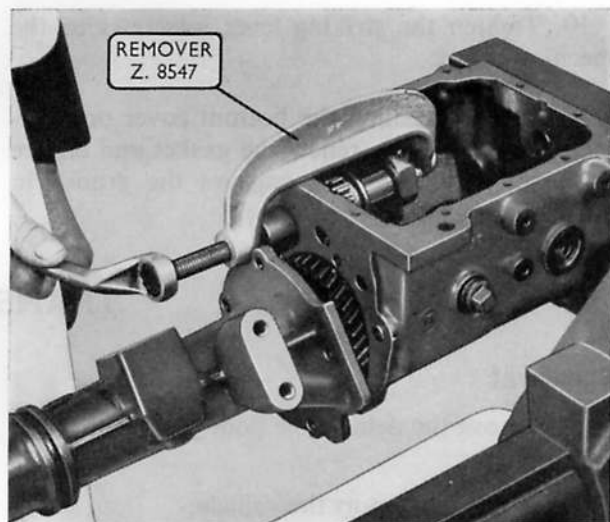

**Fig. G.11. Driving out the first and second speed striking fork rod on a four-speed transmission**
10. Using a brass drift, drive out the striking fork rods from rear to front (Fig. G.11). The end covers will be driven out by the fork rods.